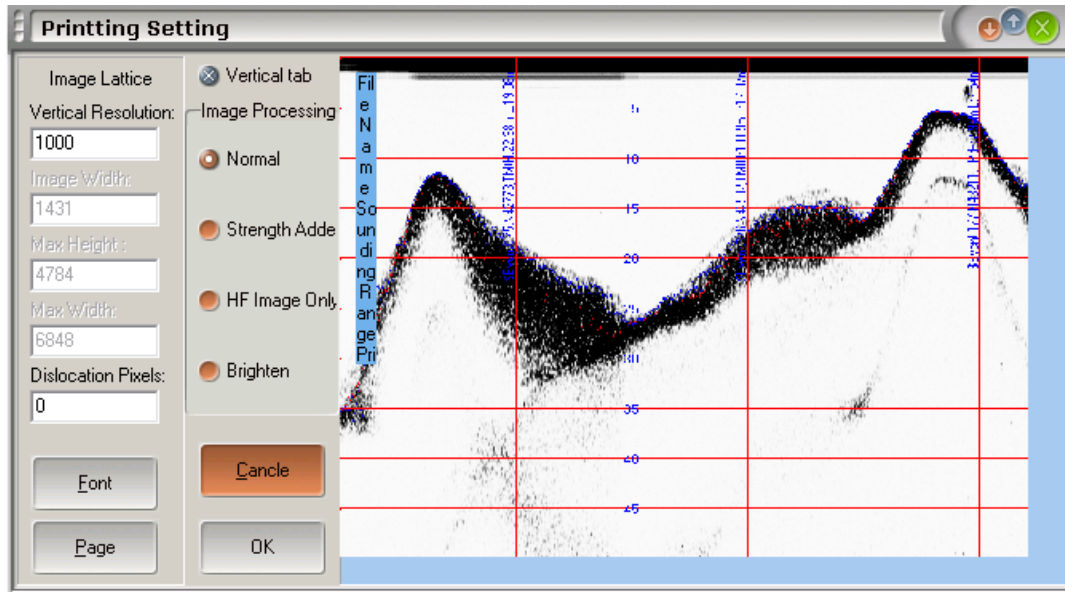

Fig. 6-5 Printing setup
**Setting Page** – After selecting this option, a window for setting print format of acoustic image will pop up. As illustrated in Figure 6-5.